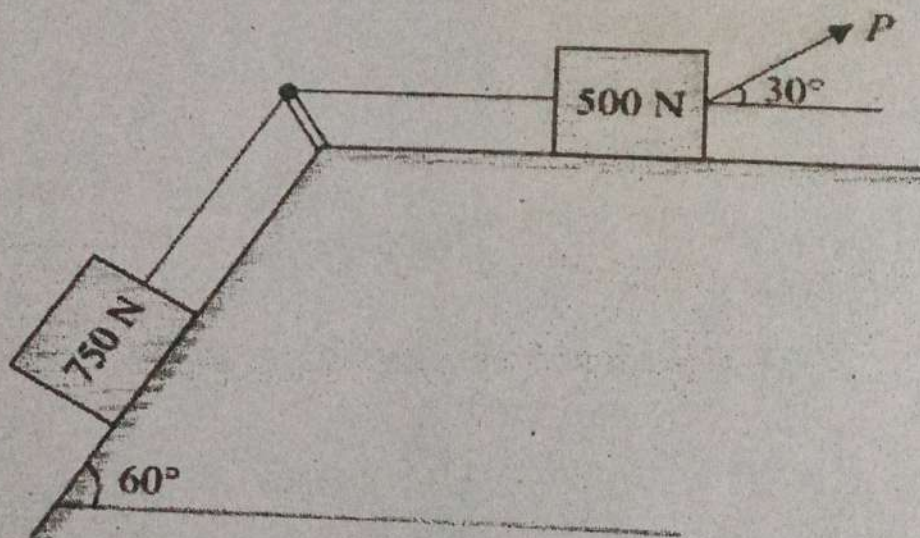

Fig. 4
10. What is the value of P in the system shown in Fig. 4 to cause the motion to impend. Assume the pulley is smooth and coefficient of friction between the other contact surfaces is 0.2.